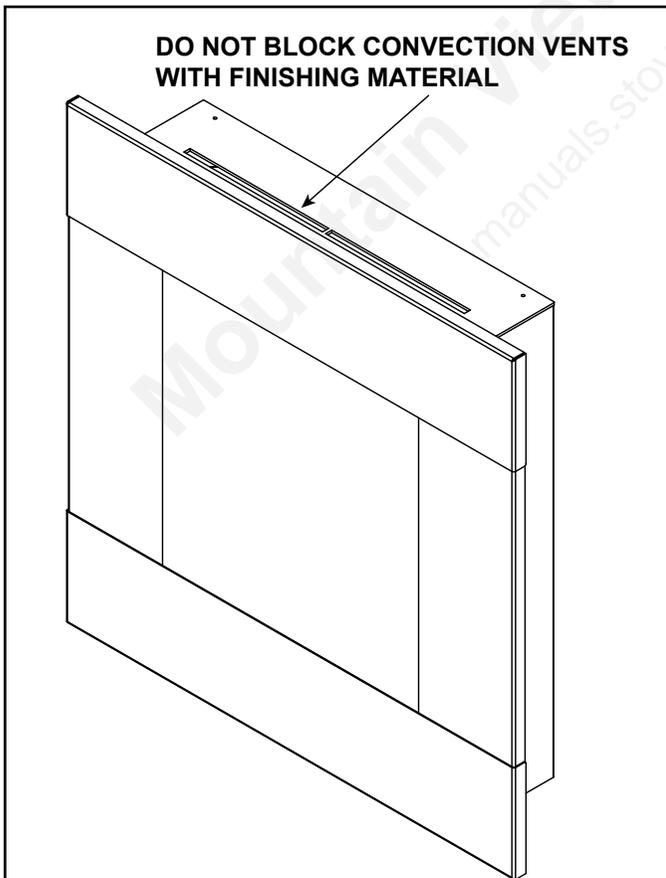
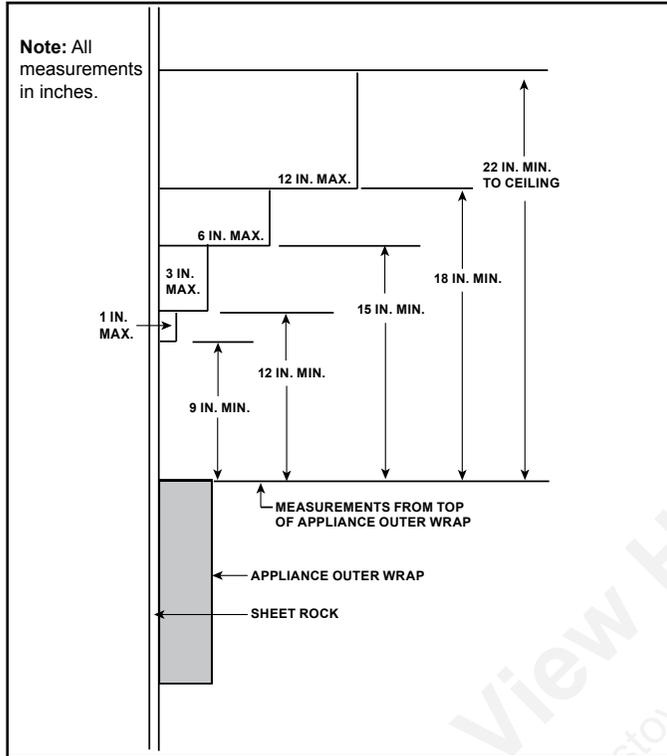

Figure 10.1 Convection Vent Location
Figure 10.3 Minimum Vertical and Maximum Horizontal Dimensions of Combustibles
- Facing and/or finishing materials must not interfere with convection vents, operation of doors, or access for service. See Figure 10.1 and Figure 10.3.
→ Figure 10.3 Non-Combustible Facing Diagram